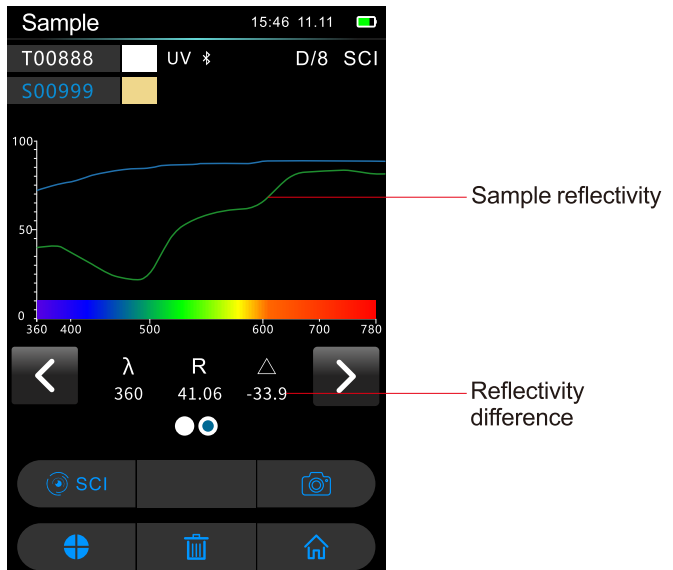

Figure.12 Sample reflectivity
7) **Sample reflectivity:** display both standard and sample reflectivity curve at the same time. Blue represents standard, and green represents sample, as shown in Figure 12.
As shown in figure 12,click  .The wavelengthreflectivity,and reflectivity difference of the sample and standard are switched at an interval of 10nm.